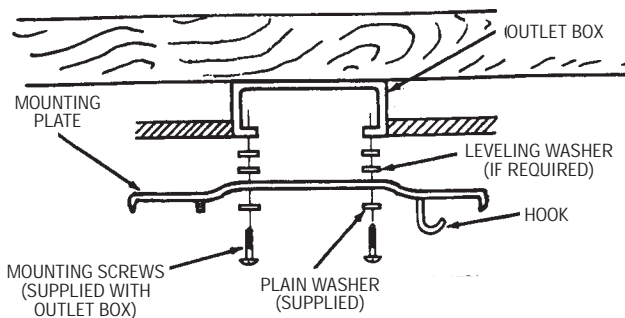
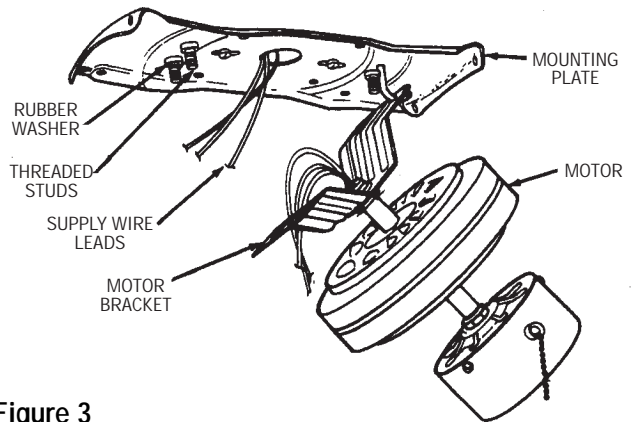

Figure 2
Figure 3
1. Securely attach the mounting plate to the outlet box (Figure 2) using two screws (supplied with outlet box). Pull the black, white and ground wires out of the outlet box through the hole in the mounting plate and lay them to the side as shown in Figure 3.
**NOTE:** For better fan performance make sure the mounting plate is level. Additional washers (not included) may be needed to insert between the electrical box and mounting plate (Figure 2).
3. Carefully lift the fan motor assembly and engage the slot in the motor bracket with the hook on the mounting plate so that it is securely suspended (Figure 3). Then connect wiring to your fan according to section "HOW TO WIRE YOUR CEILING FAN".